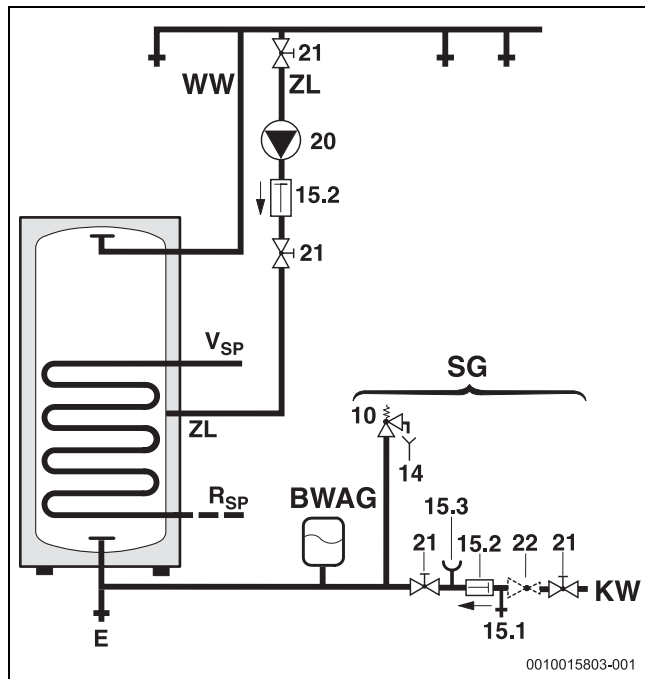

Fig. 1 Connection diagram on the domestic water side
- ▶ Comply with minimum height requirements in the installation room (→ Figure 1, page 66).